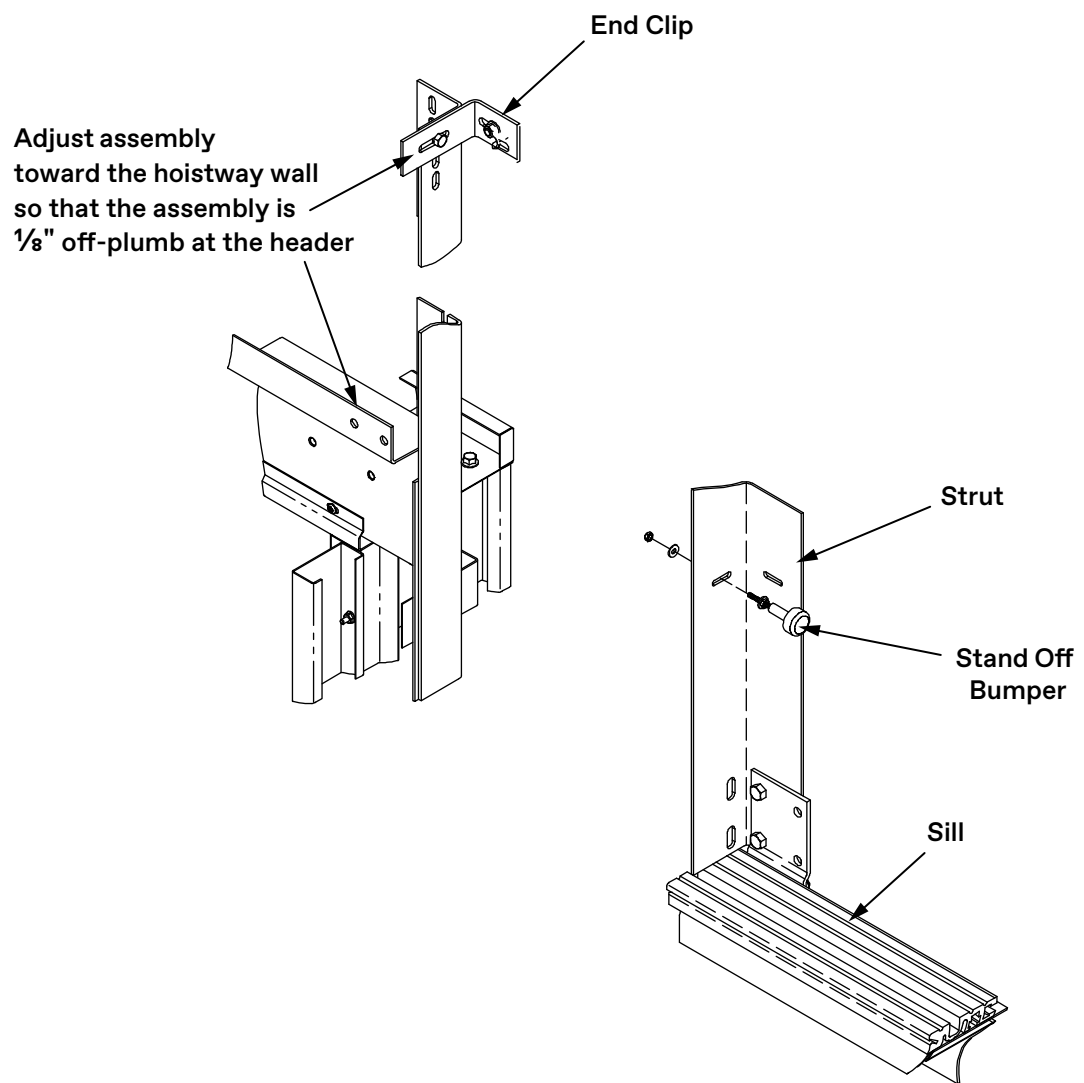

Figure 25 - Adjust Frame Assembly
1. At the end clips, adjust the strut/header/frame assembly toward the hoistway wall so that the assembly is $\frac{1}{8}$ " off-plumb at the header. This action allows the clutch to clear the fascia. See Figure 25.